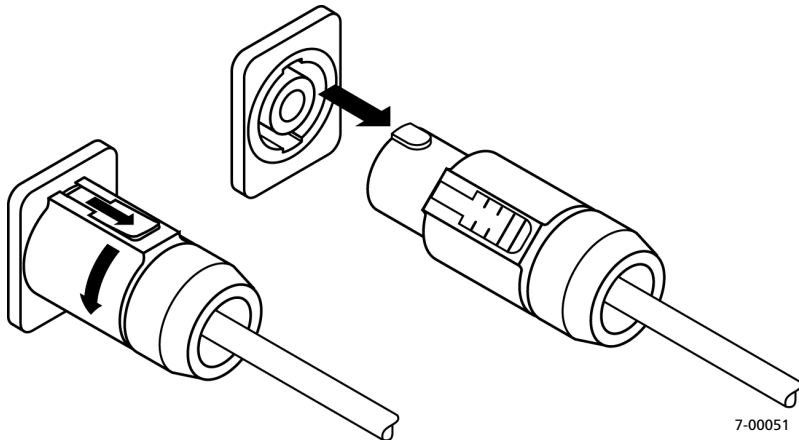

Figure 2-4. Disconnecting the external battery
3. Figure 2-4 shows you how to disconnect the external battery.